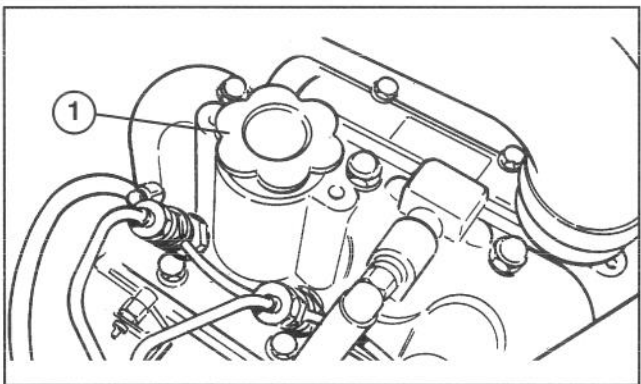

Figure 10
3. If oil level is low, remove oil fill cap (Fig. 10) and gradually add small quantities of oil, checking level frequently, until level reaches FULL mark on dipstick.